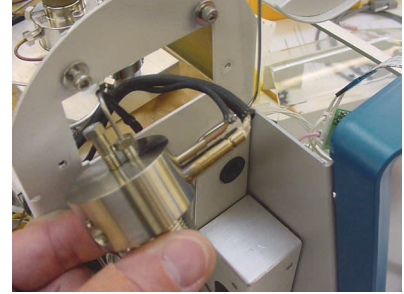

Figure 8.4. Removing the sparge mount thermocouple and heater
14. Remove the sparge mount thermocouple and the sparge mount heater from the side of the sparge mount (Figure 8.4).